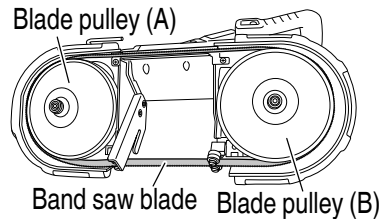

Fig. 16
- (4) Holding the band saw blade in place, turn the Tension lever in the direction for tightening and secure the band saw blade. **(Fig. 16)**